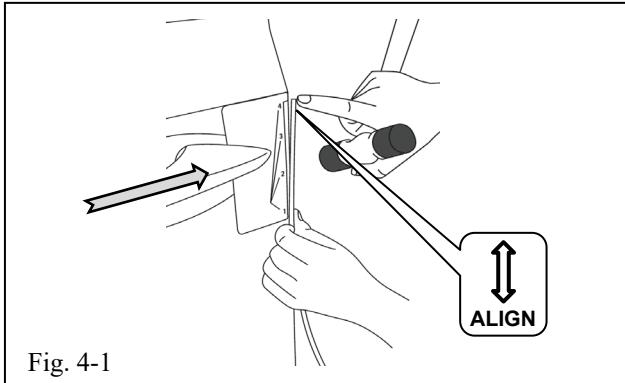

Fig. 4-1
- Tape template to door and align (Fig 4-1).